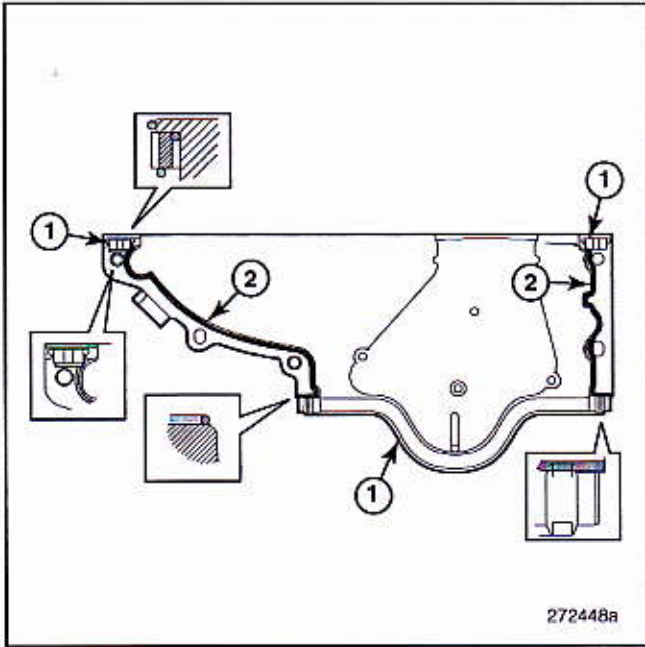

Figure 454 — Timing Cover Seals and Sealant Application
16. Apply a 2 mm (5/64 inch) bead of MACK-approved sealant on the timing gear cover mounting surface and install **new** rubber seals (Figure 454).